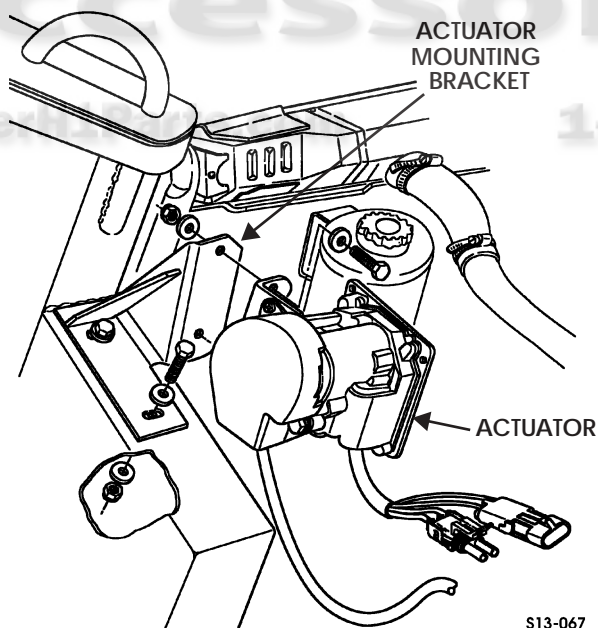

Figure 13-72: Actuator and Mounting Bracket Breakdown
5. Remove bolts, nuts, washers and actuator from actuator mounting bracket (Figure 13-72).
2. Secure actuator to actuator mounting bracket with bolts, washers, and nuts (Figure 13-72).